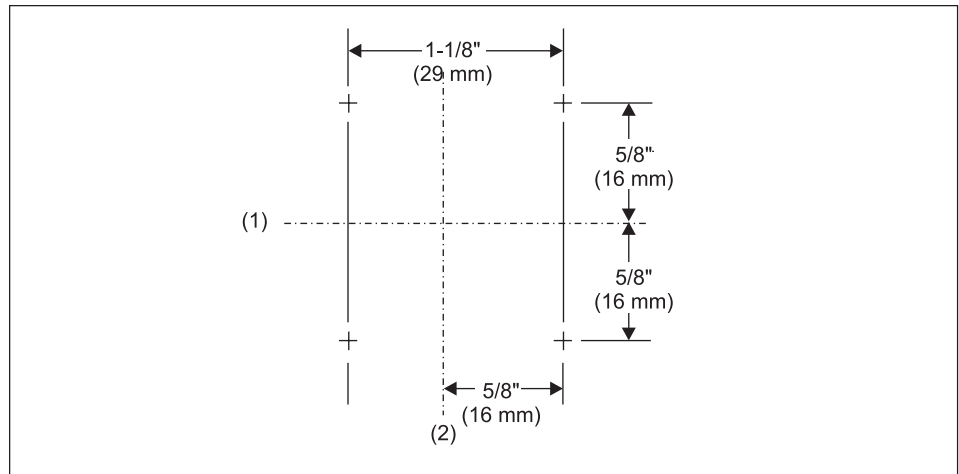

Figure 13.
1. Locate and pilot drill mounting holes for four #8 x 1-4/4" self tapping screw. Refer to *Figure 13*.